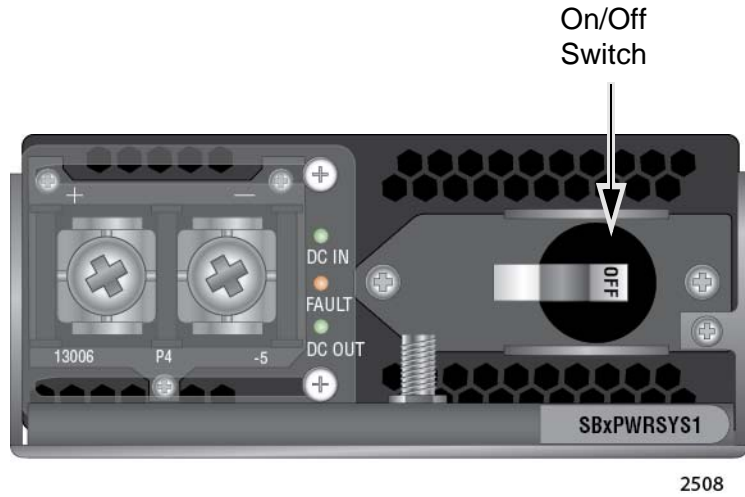

Figure 69. On/Off Switch on the AT-SBxPWRSYS1 DC Power Supply
4. Verify that the On/Off switch on the power supply is in the Off position. Refer to Figure 69 on page 145.